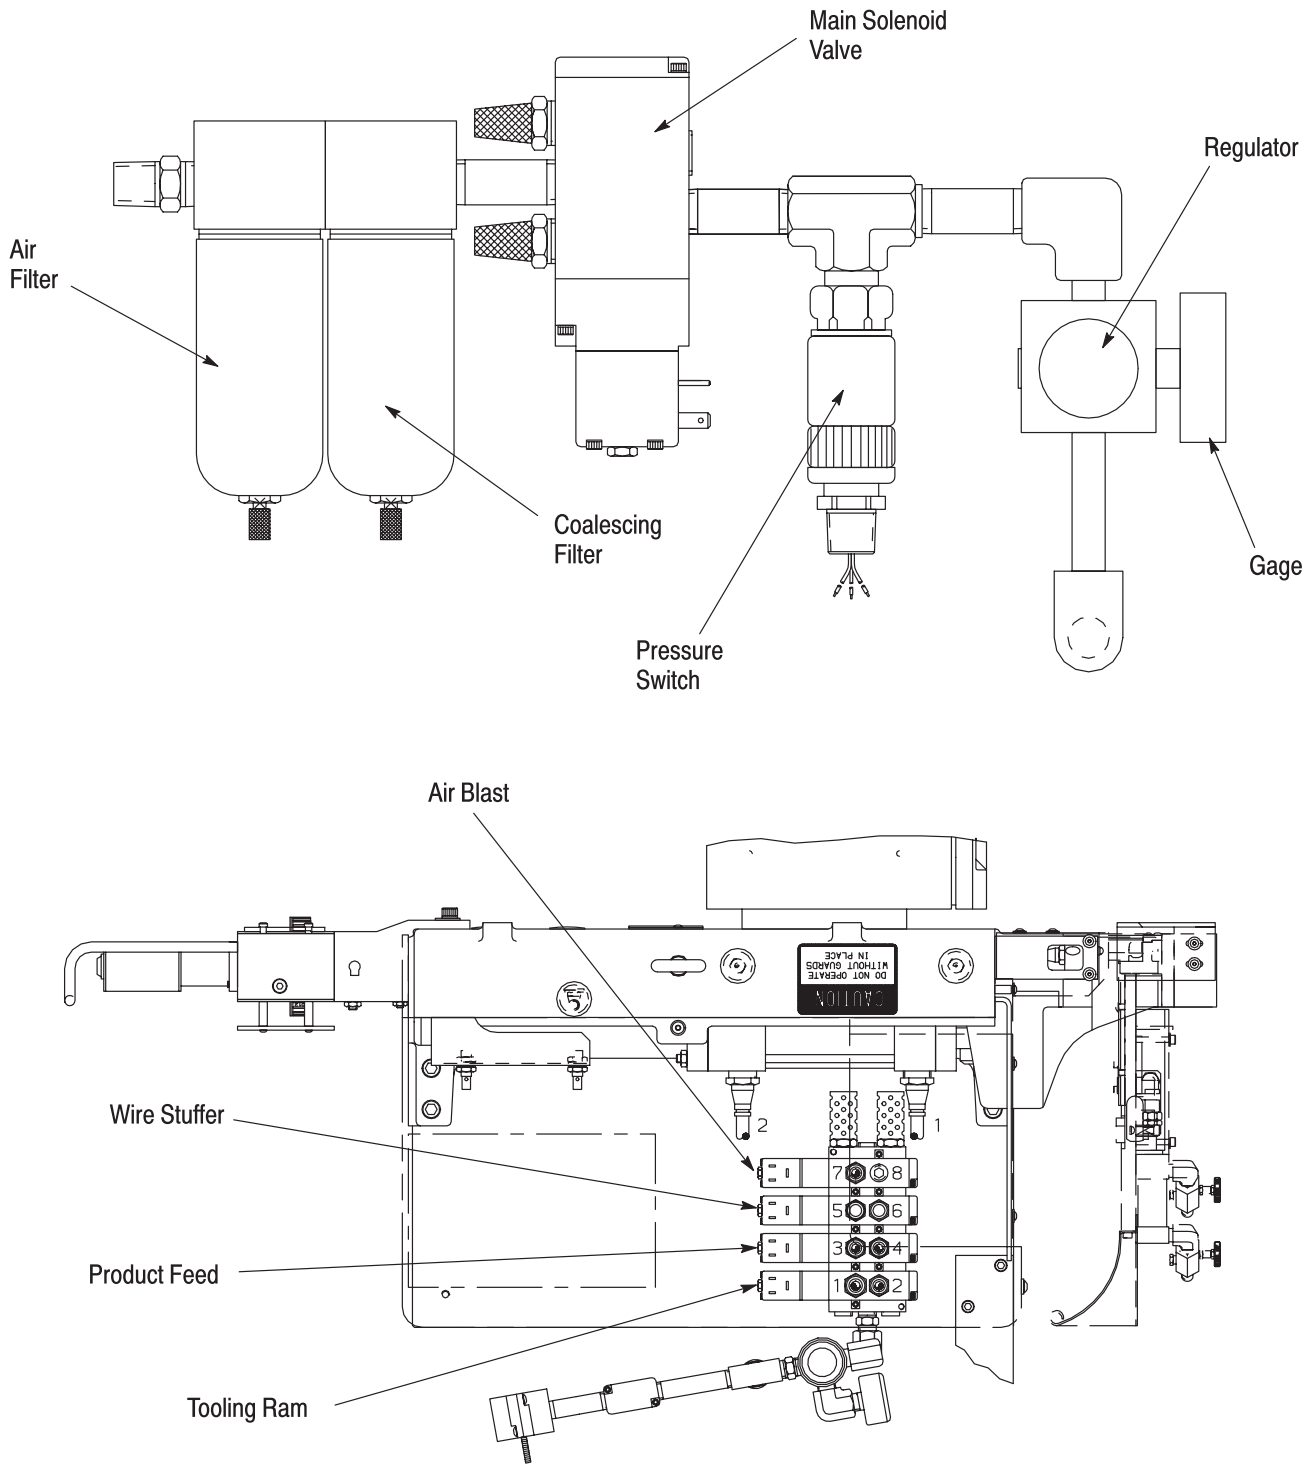

Figure 8
D. Air Input and Valve Stack Assembly (See Figure 8)